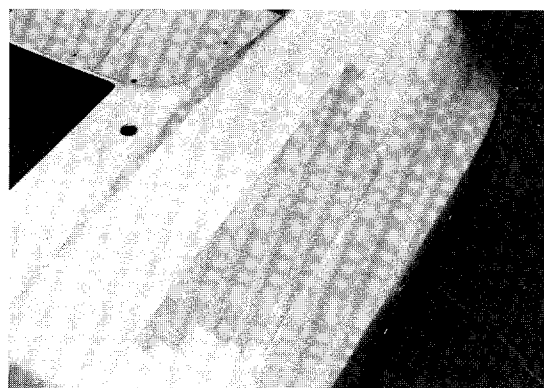

Figure 14-12
3. Apply masking tape to damaged area on the painted side of the body. The tape should completely cover the damaged area including cracks (**Figure 14-12**). Turn cowl upside down.